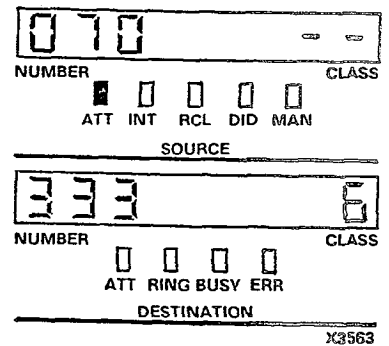

Figure 310-3
- * SOURCE display (Figure 310-3) shows the number of the calling trunk ATT lamp lit